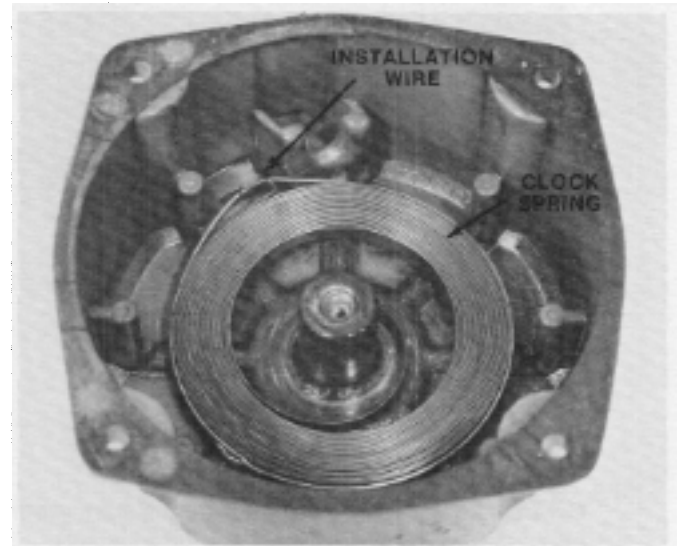

Figure 68
1. If the recoil spring was removed during disassembly, replace it with a *new* one. Position the spring with the wire on it into the recoil housing as shown in Figure 68.